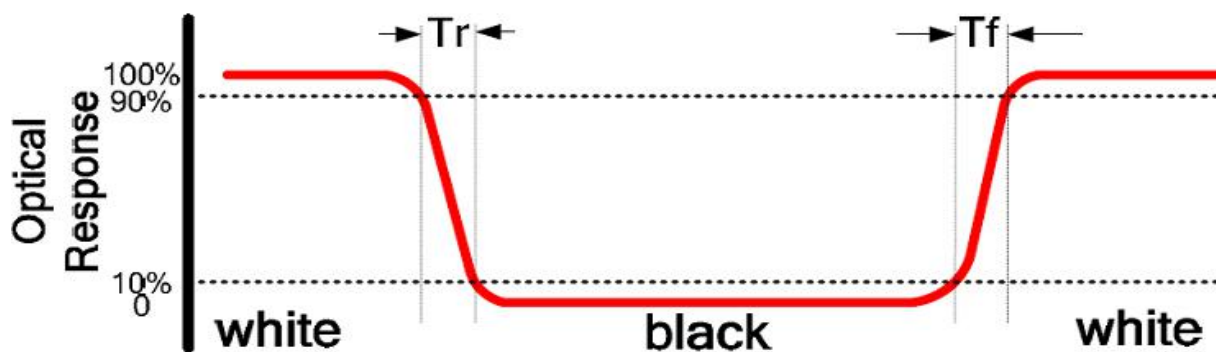

FIG2. Measuring method for Contrast ratio, surface luminance, Luminance
Note2.contrast Ratio(CR) is defined mathematically by the following formula ,For more information see FIG2.
axis with respect to the z axis which is normal to the LCD surface. For more information see FIG3 Note5. Surface luminance is the LCD surface luminance with all white pixels, For more information see FIG2.